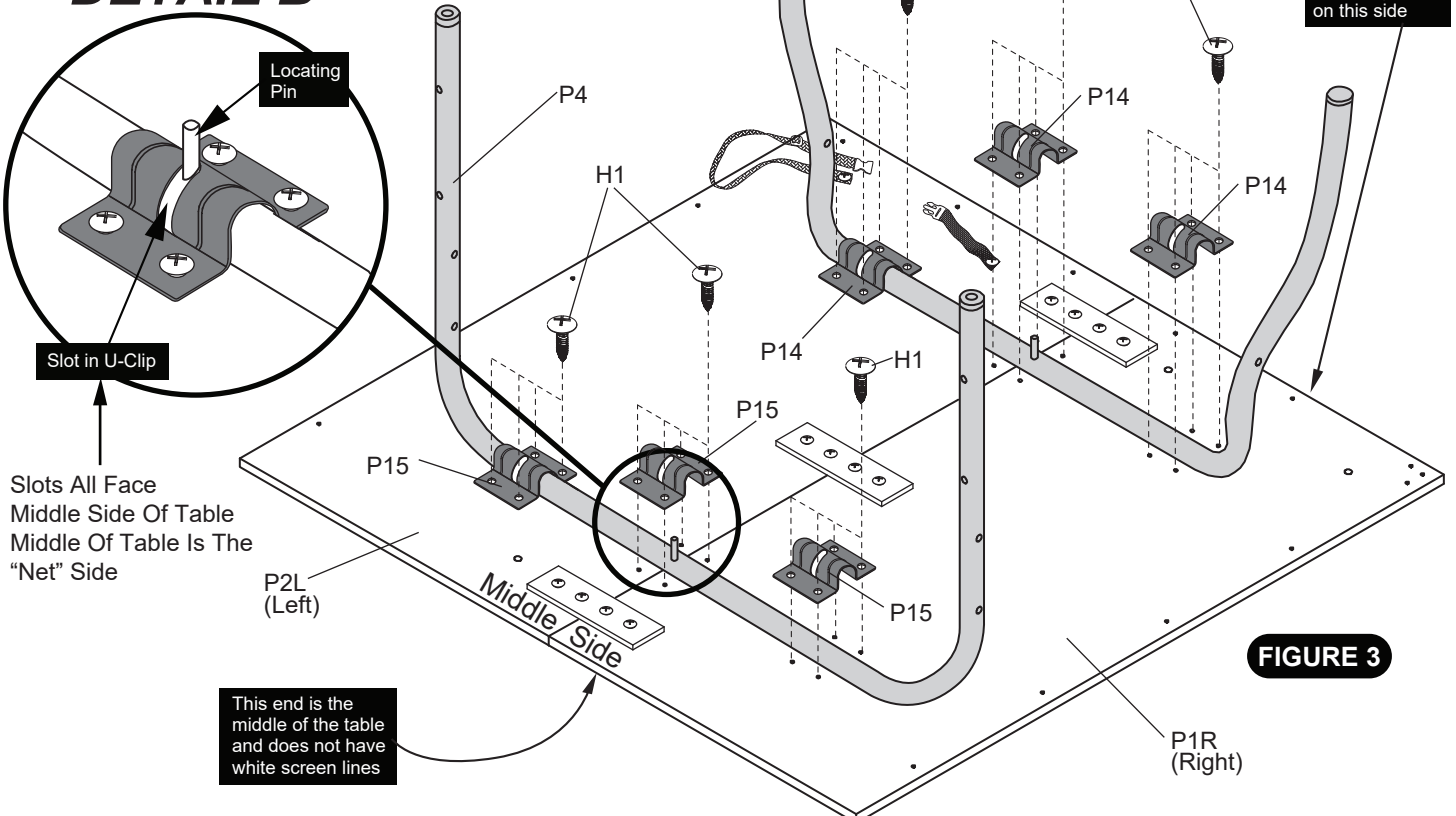

FIGURE 3
WHEN ASSEMBLING TABLE, IT IS EXTREMELY IMPORTANT THAT THE P14 LARGE U-CLIPS AND P15 SMALL U-CLIPS BE TURNED AS SHOWN IN FIGURE 3 & DETAIL A. IF U-CLIPS ARE TURNED INCORRECTLY, YOU WILL DO IRREPARABLE DAMAGE TO YOUR TABLE WHEN YOU ATTEMPT TO OPEN IT TO THE PLAYING POSITION.
1. BE SURE THAT SLOT IN THE THREE P14 LARGE U-CLIPS AND P15 SMALL U-CLIPS ALL FACE THE SAME DIRECTION (TOWARD THE MIDDLE OF THE TABLE) AS SHOWN IN FIGURE 3 & DETAIL A.